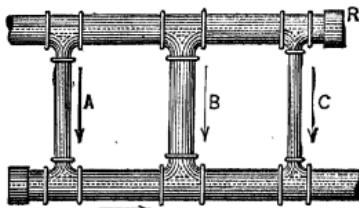

FIG. 40. Pipes *A*, *B* and *C* are connected in parallel.
19. Parallel Circuit. Voltage. Suppose, as in Fig. 40, we should join two main pipes *R* and *S* by means of three parallel pipes *A*, *B* and *C*. All the parallel pipes lie be-
20. Parallel Circuit. Current. Turning again to Fig. 40, it is seen that, since the pipes A , B and C are not joined in series, they are independent of one another, and do not have to carry the same current. In fact, it is very evident that the largest pipe will carry the largest current and the smallest pipe the smallest current. Water and electricity do not take the path of least resistance. They take all paths. Where the path is of small resistance, a heavy current flows. Where there is a path of large resistance, a small current flows. But the water or the electricity is sure to make use of both the low resistance and the high resistance paths and force as much current as possible through both. The total current that flows through is merely the sum of the currents in the separate paths.
Or, referring to Fig. 40, it can be seen that the more pipes there are connected in parallel between the main pipes R and S , the easier it is for the water to get from one main pipe to the other. Hence the smaller the resistance between the main pipes.